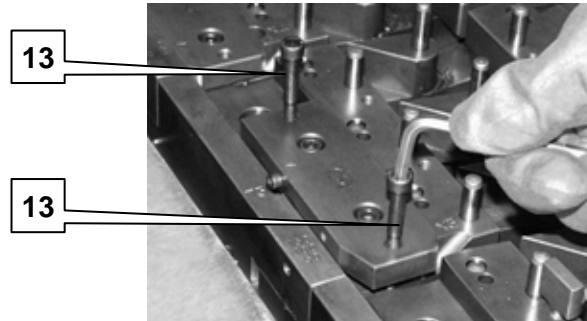

Fig. 4.60 – Pulling out of fulcra 3, 4 and 5
- 8.3 if pulling out fulcra turns to be difficult, with a screwdriver insert two screws M6 (on issue) **13** in free threaded holes and tighten them alternatively for 1 turn till the complete pulling out (fig. 4.60);